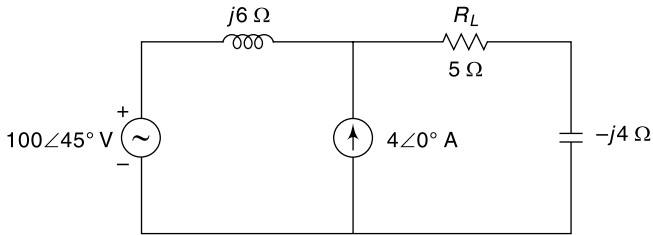

Fig. 6.38
6. Find the power loss in R_L in Fig. 6.38 using superposition theorem.